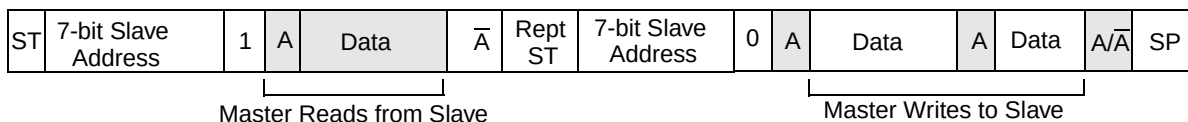

**Figure 24-11. Data Transfer, Combined Format**
- The first example in Figure 24-11 is the case of master-transmitter transmitting to slave-receiver. The transfer direction is not changed.
- The second example in Figure 24-11 is the master reading the slave immediately after the first byte. At the moment of the first acknowledge, the master-transmitter becomes a master-receiver and the slave-receiver becomes slave-transmitter.
- In the third example in Figure 24-11, START condition and slave address are repeated using the repeated START signal. This is to communicate with same slave in a different mode without releasing the bus. The master transmits data to the slave first, and then the master reads data from slave by reversing the R/W bit.